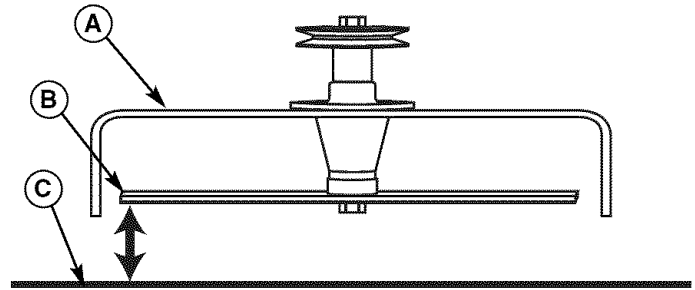
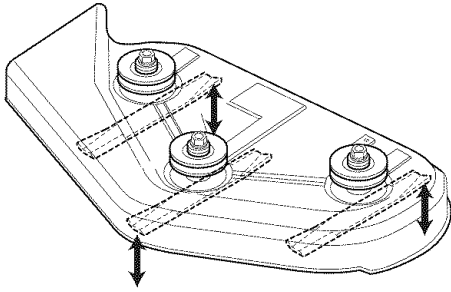

Figure 35. Measure Blade Tips to Ground
Figure 38. Orient Blades Front-to-Back
4. Set the cutting height to mid position. Arrange the mower blades so that they are pointing from side-to-side (Figure 35).
5. Measure the distance between the tips of the outside blades and the ground (Figures 35 & 36). If there is more than 1/8" (3mm) difference between the measurements on each side, proceed to step 6. If the difference is 1/8" (3mm) or less, proceed to Front To Back Leveling.
1. Turn the blades front-to-back as shown in Figure 38. Measure the distance from the ground to front tip of center blade, and from ground to rear tips of left hand and right hand blades (Figures 35 & 38). Front tips should be 1/8"-1/4" (3-6 mm) higher than rear tips. If not, proceed to step 2.